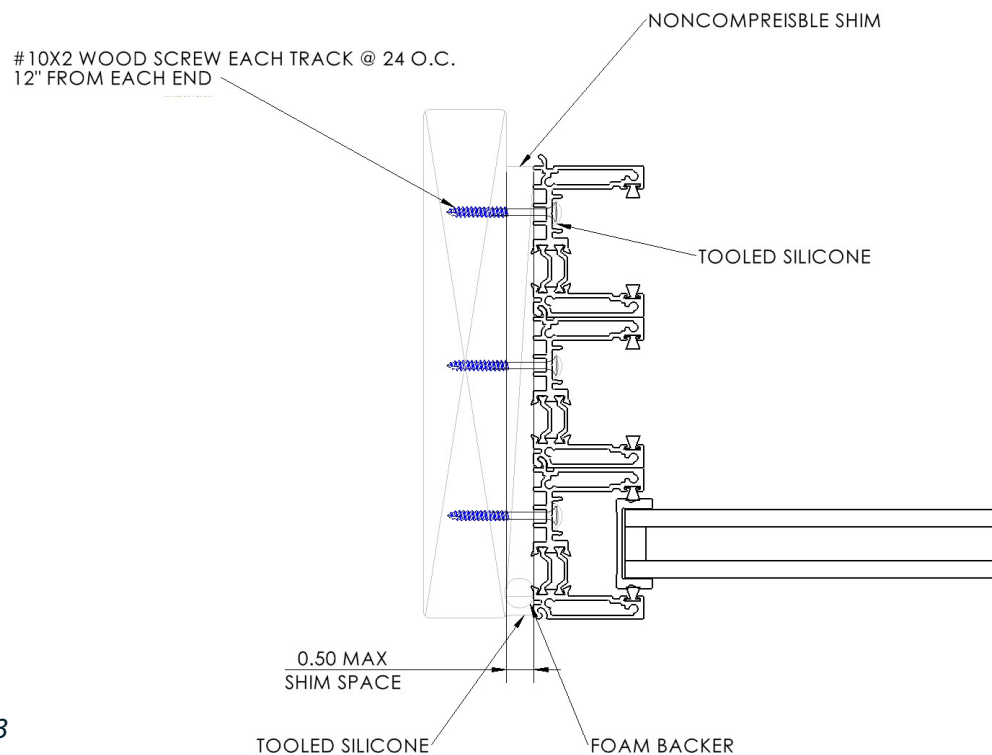

Figure 3
- Jambs – 12" from each end and every 24" on center per track. (See Figure 3)